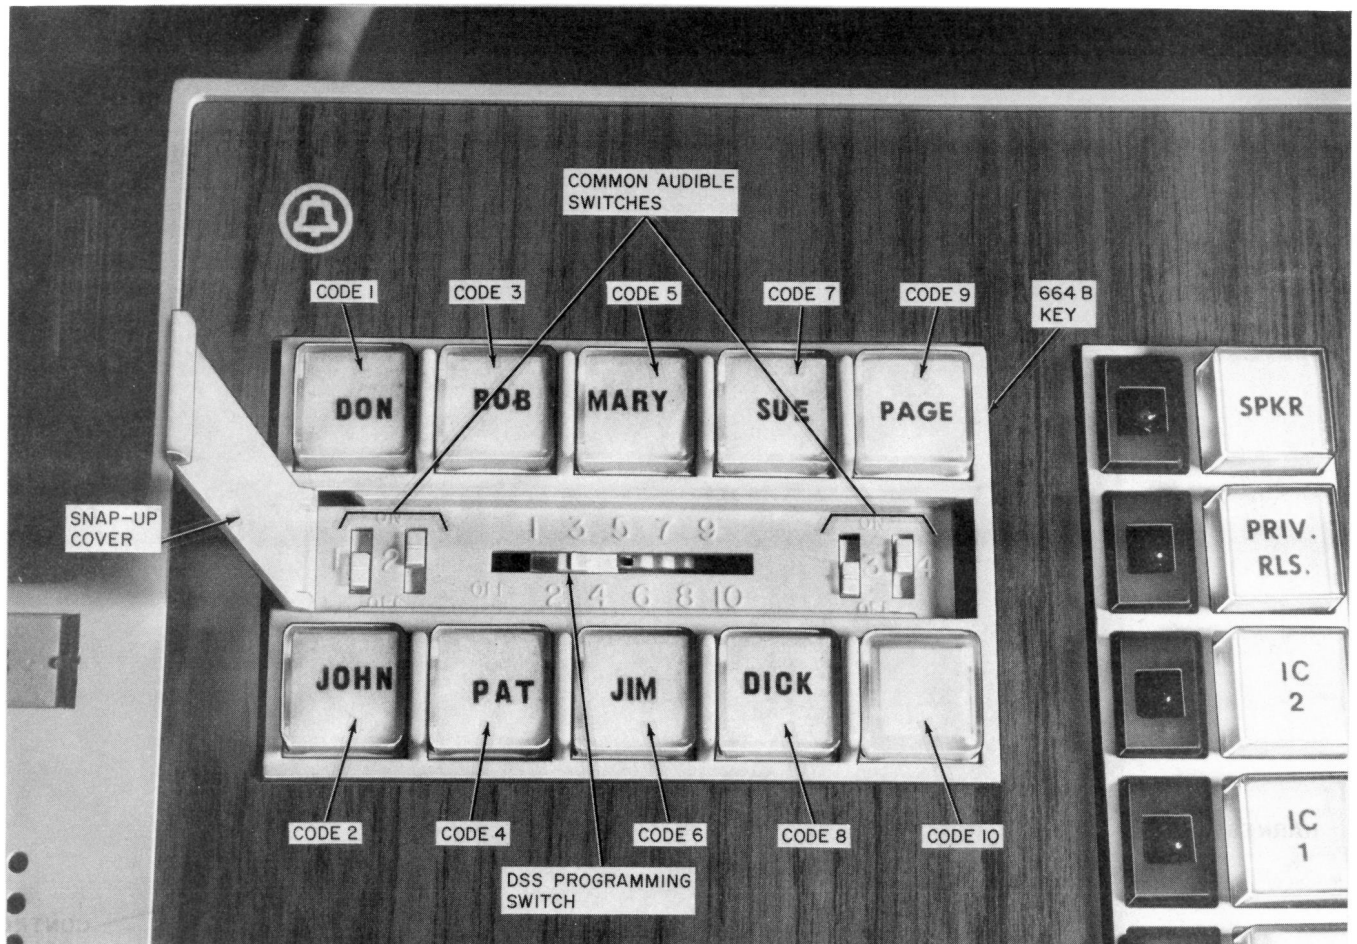

Fig. 20—DSS Key, Cover Open
intercom code of the station (Fig. 20). Repeat the following procedure at each station:
- (1) Raise the cover by pressing on the left end to tilt it up or pry up the right end with a fingernail.
- (2) Find out which CO/PBX lines are to ring at the station. Set the switch for each line either ON or OFF. On the standard DSS key (664B), ON is up and OFF is down; on the code busy DSS key (664C), ON is right and OFF is left. (Fig. 20 shows the station coded to ring on lines 2 and 4.)
- (4) To set the intercom code, slide the DSS programming switch to the proper number between 1 and 10 (or to OFF if the station is to have no DSS code). Be careful that the switch is not between detent positions. (Fig. 20 shows the set coded as station 3.)